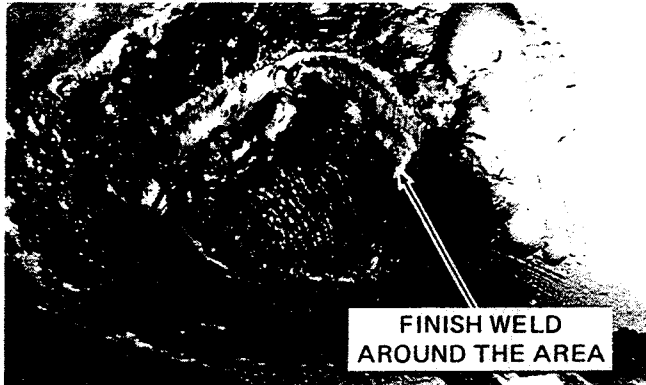

Figure 33
5. Finish weld over the area for a smooth appearance and strength. See Figure 33